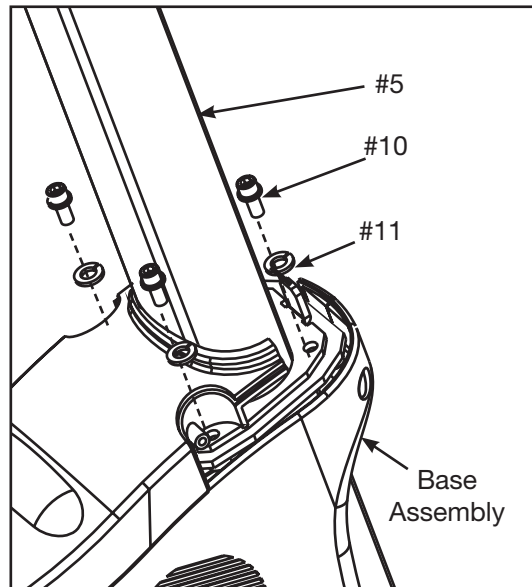

Figure 6
- D.** Lower the upright tube (#4) over the upper display cable and hold it steady in the correct position on the base assembly. See Figure 6.
- E.** Using a 1/4" Allen wrench (#15), attach the upright tube (#4) with the four screws 5-16-18 x .75 (#9) and four washers 5-16" (#10). See Figure 6.